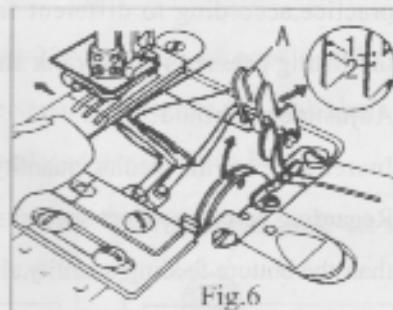

Fig.6
(1) Make the bobbin thread go through the needle tension regulator guide plate(single side);go through the two holes when thread of harder twist fiber is used or feed gauge is wider than usual.
(2) Pull the spring toward the operator,as shown in Fig.6 and part A will rise upwards.
(3) When threading the looper,the thread shall be made go through the eye of the needle with a tweezer as shown in Fig.6 and 50mm of remaining thread be pulled out.